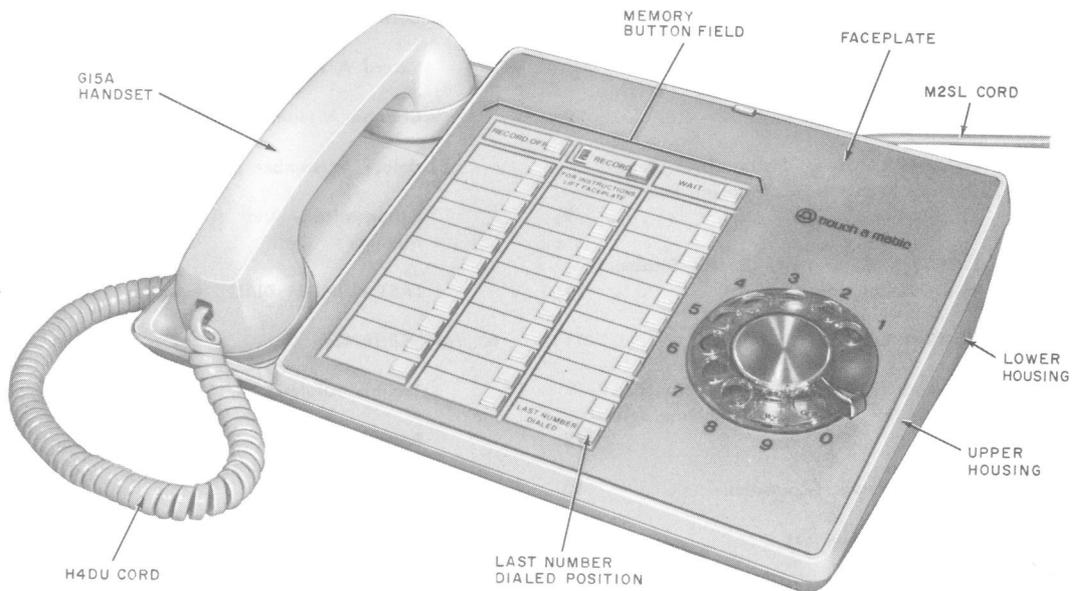

Fig. 1—870A2M Telephone Set
1.01 This section contains identification, installation, connections, and maintenance information for the 870A1M (MD) or 870A2M telephone set (Fig. 1)